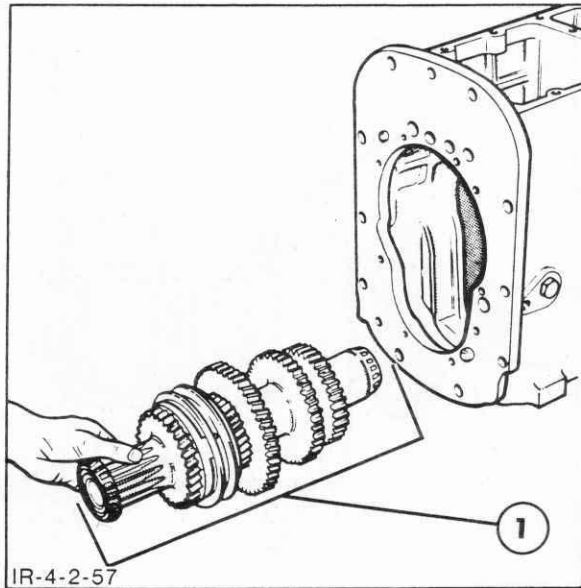

Figure 4-150
4. Lift the countershaft assembly, Figure 4-150, and remove from the rear end of the transmission case.